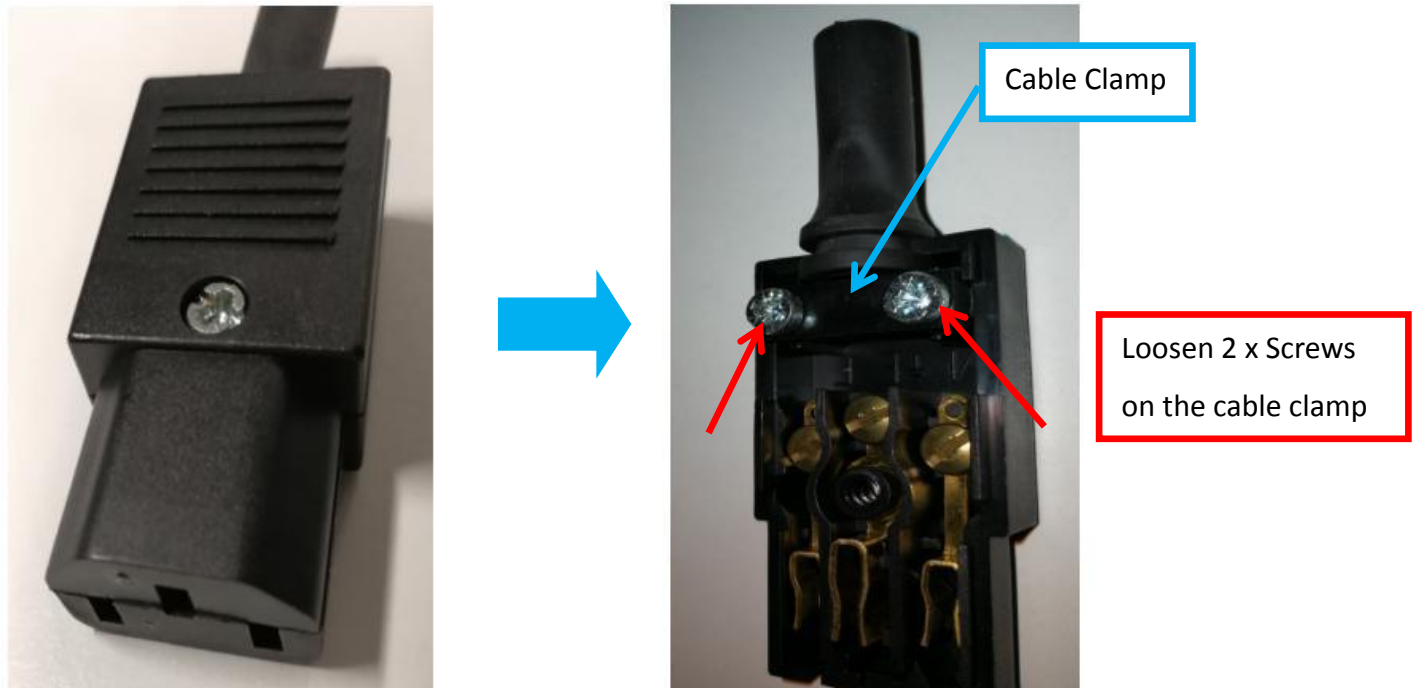

Figure 19
24. Open Insulator Cover from Vertical Type Power Connector as below Figure 19. Loosen 2 x Screws on the cable clamp & remove accordingly.